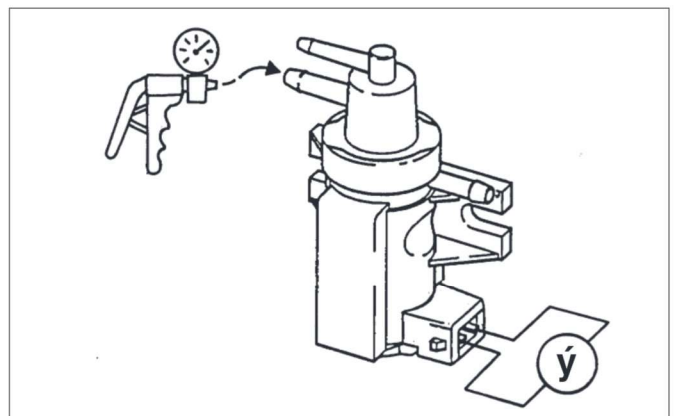

Fig. 8
Check EPW resistance, Fig. 8
- Measure resistance according to Fig. 8
Checking the function, fig. 8
- Connect manual vacuum pump according to fig. 8. It is used as a manometer. The other hose connections remain in place.